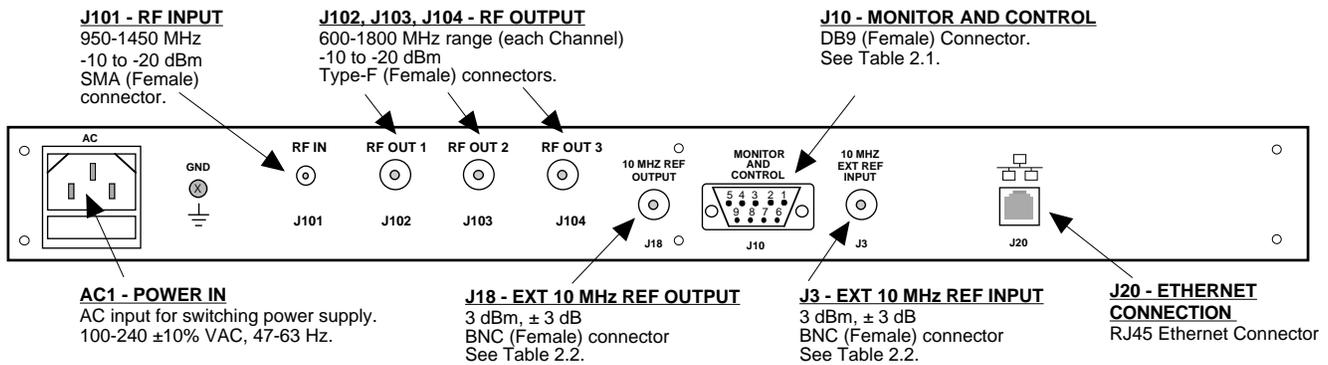

FIGURE 2.1 2083-13-1518 Rear Panel I/O's
Figure 2.1 shows the input and output connectors on the rear panel.
1. Connect a -10 dBm to -20 dBm signal to RF IN, J1 (Figure 2.1)